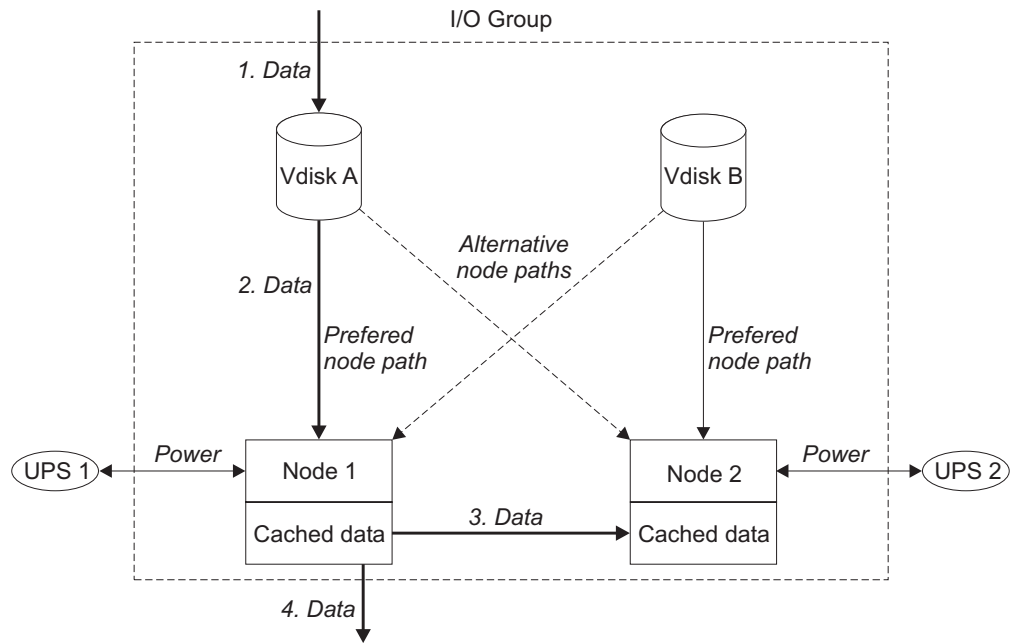

Figure 9. I/O group and uninterruptible power supply
Figure 9 on page 40 shows an example I/O group. A write operation from a host is shown (item 1), that is targeted for virtual disk A. This write is targeted at the preferred node, Node 1 (item 2). The write is cached and a copy of the data is made in the partner node, Node 2's cache (item 3). The write is now complete so far as the host is concerned. At some time later the data is written, or destaged, to storage (item 4). The figure also shows two uninterruptible power supply units (1 and 2) correctly configured so that each node is in a different power domain.